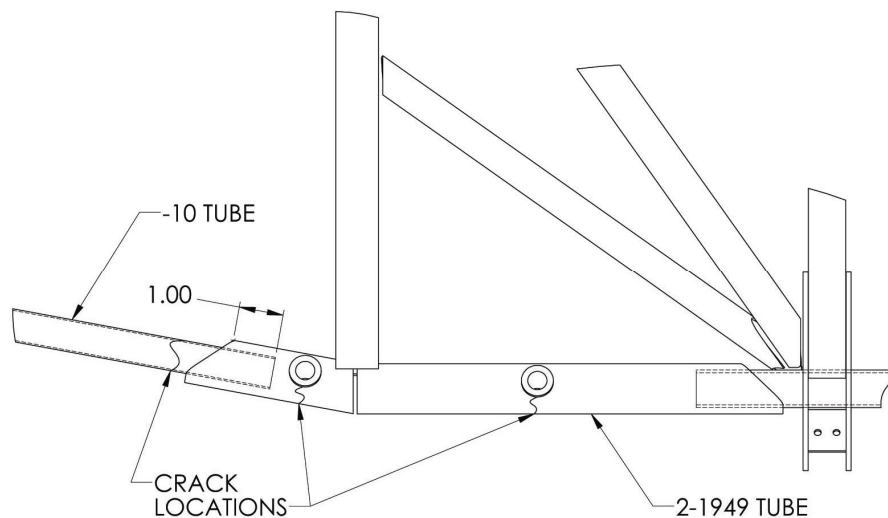

Figure 1, Longeron at Main Gear Attachment
2. Visually inspect left and right main gear longerons as indicated in Figure 1. Removal of upholstery panels may be necessary to facilitate inspection at the aft u-bolt attachment. Cracks typically originate from the attachment holes.
3. Replace removed portion of -10 tube with .035 x Ø.75 4130 Steel Tubing Condition N (AMS-T-6736). Replacement tube must be inserted 1.00 inches into 2-1949 tube (see Figure 1). Effect an inner-sleeve or outer-sleeve splice. Weld per specification CW-1S or other approved method.